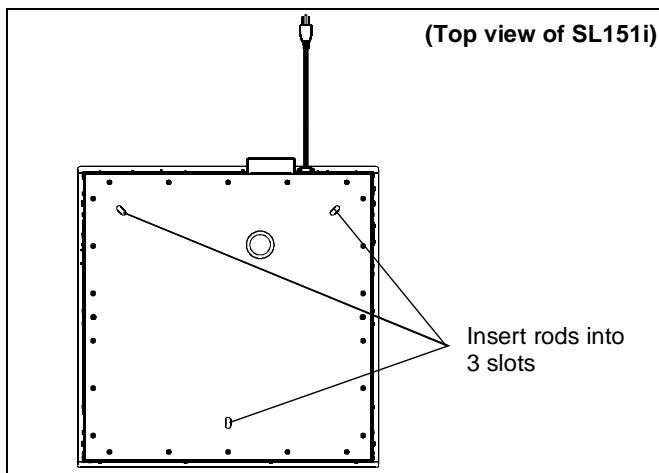

Figure 8
1. Turn SL-151i over and place onto threaded rods, inserting the rods into the three slots on top of the SL-151i housing. (See Figure 8)